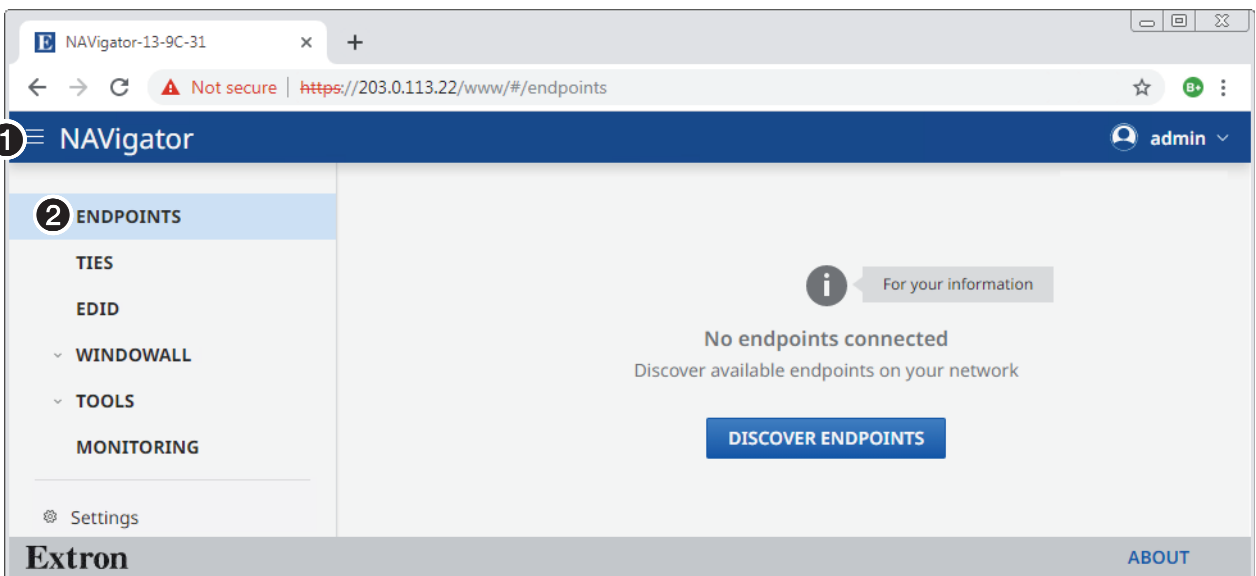
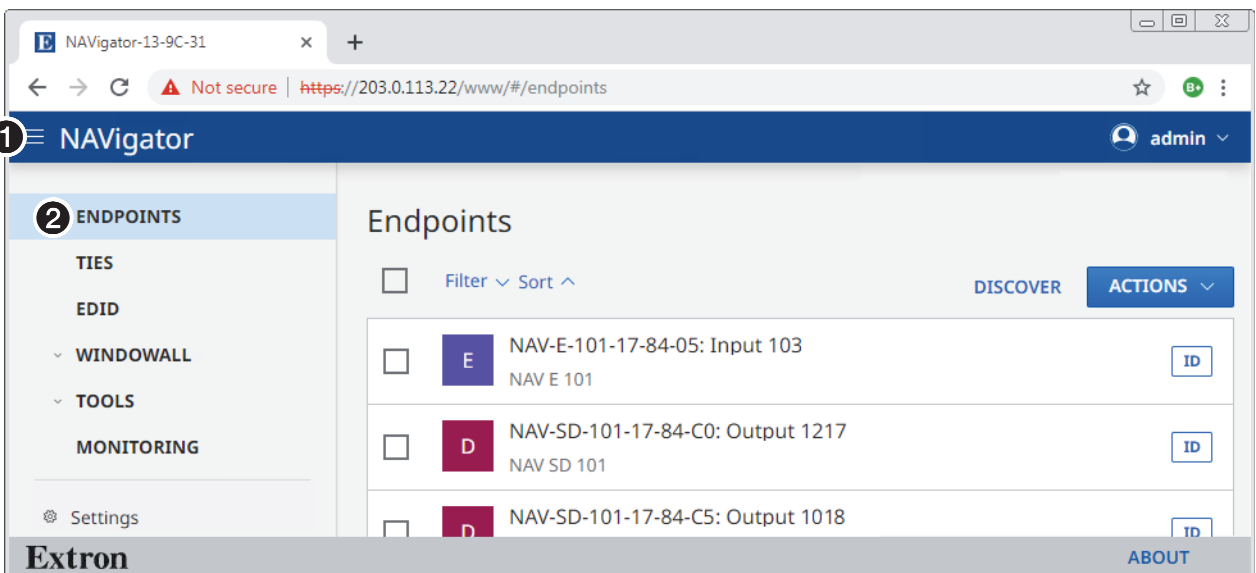

Figure 10. Endpoints Page with no Discovered Endpoints
Figure 11. Endpoints Page with Discovered and Assigned Endpoints
The **Endpoints** page allows you to discover endpoints and assign one or more to the NAVigator. To access the **Endpoints** page, if necessary, click the **Menu** icon (see figure 10, ① and figure 11, ①). Click **Endpoints** (②). The **Endpoints** page opens. See Creating a NAV System on page 22 for a detailed description of discovering and assigning endpoints as part of creating a system.
Figure 10 shows the **Endpoints** page when no endpoints have been discovered or assigned.
Figure 11 shows the **Endpoints** page when endpoints have already been discovered and assigned and are online.